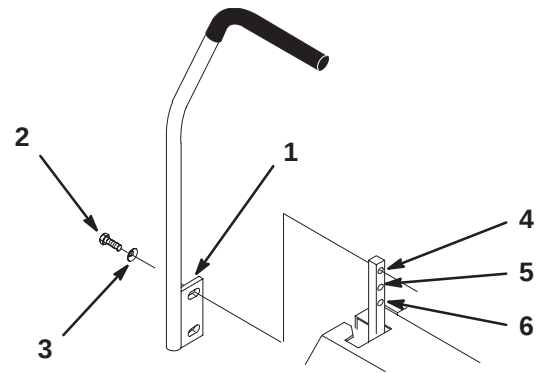

Figure 4
1. Remove the 4 bolts (3/8 x 1 in.) and 4 spring washers (3/8 in.) which attach the motion control levers to the control arm shafts for shipping (Fig. 4).
2. Place the levers (with the mounting plate toward the rear) on the outside of the control arm shaft and secure with 4 bolts (3/8 x 1 in.) and 4 spring washers (3/8 in.) (Fig. 4).
4. Align the front/rear position of the levers, with each other, in the neutral position. Loosen hardware and adjustment by sliding/tilting the lever(s) forward or backward until properly aligned (Fig. 4).